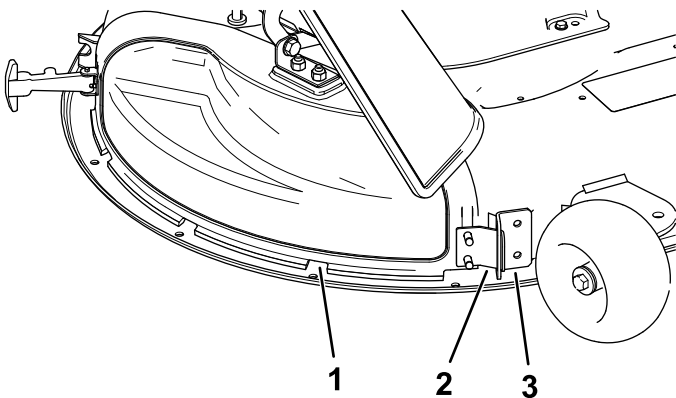

Figure 12
5. Angle the metal tab on the discharge cover out of the slot in the bracket welded to the mower deck (**Figure 12**).